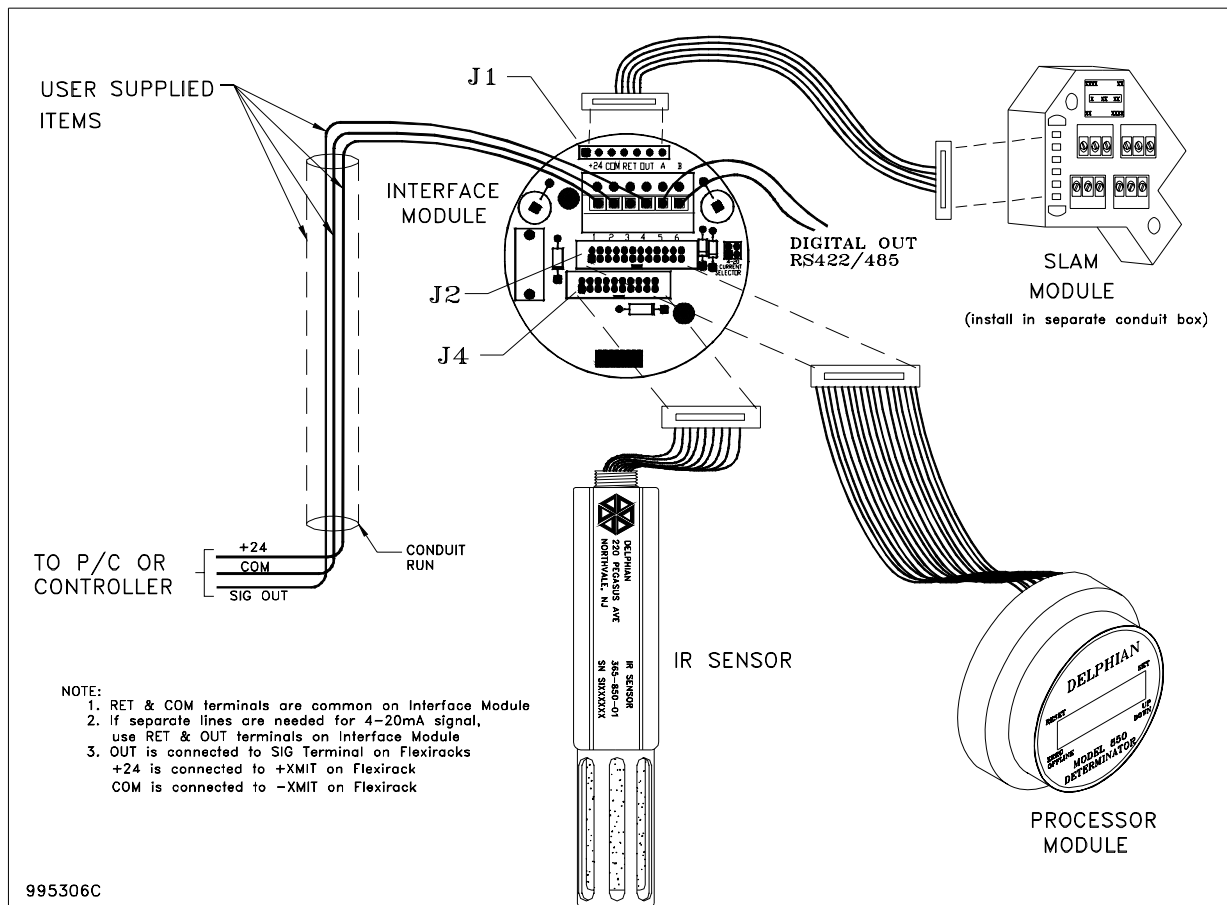

Figure 10: Installing the FPIR Sensor (Drawing # 995306)
2. Remove the conduit box cover. Ascertain that there are three conductors coming out of the conduit and that these conductors are connected to the proper terminals on the Interface Module inside the box. See Figure 10.
The Interface Module (Figure 10) is designed to allow easy plug in connection of the Sensor, the Processor and optional modules such as the SLAM. It also provides convenient wiring for power and communica-